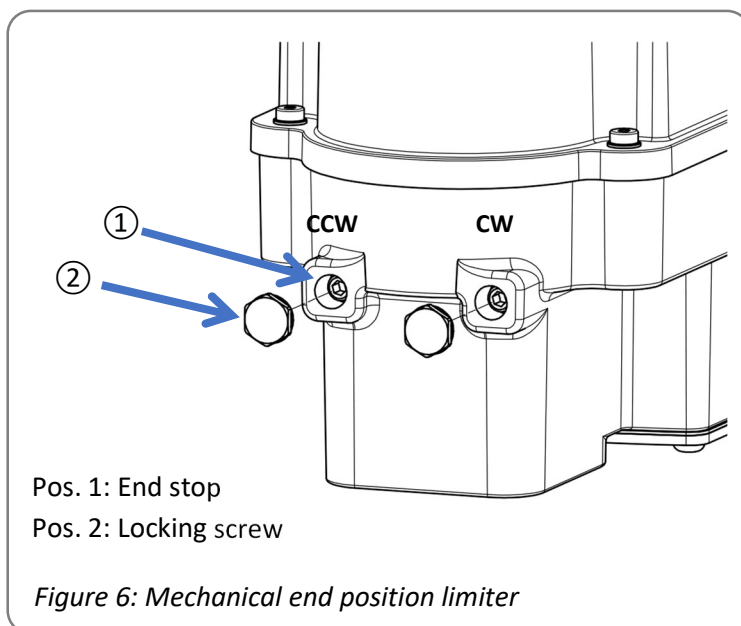

Figure 6: Mechanical end position limiter
- Replace the protective caps (Figure 6, Pos. 2) on the adjusting screws after adjusting the additional limit switches. Tightening torque 2 Nm.